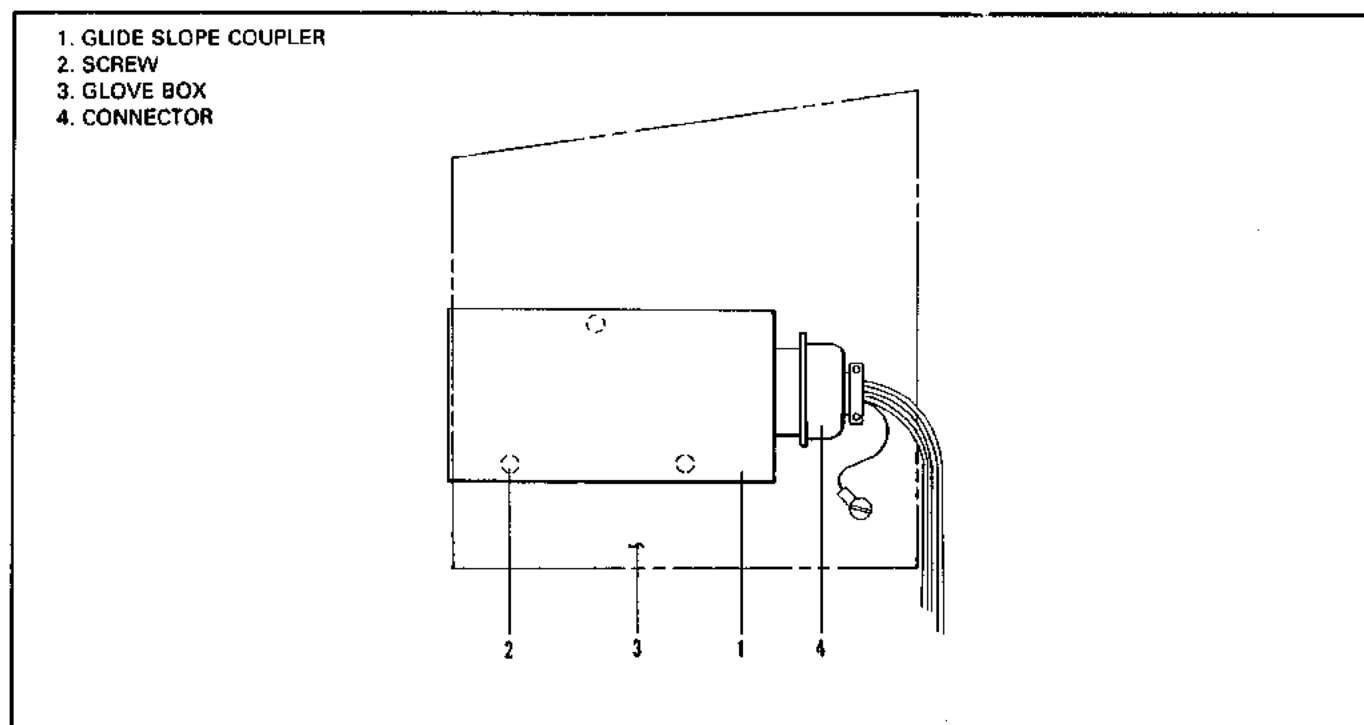

Figure 9-4. Glide Slope Coupler Installation, PA-32-260, S/N 32-7500001 to 7700023
**9-7. INSTALLATION OF GLIDE SLOPE COUPLER. (PA-32-260, S/N 32-7500001 to 7700023 and PA-32-300, S/N 32-7540001 to 7840045) (Refer to Figure 9-4.)**